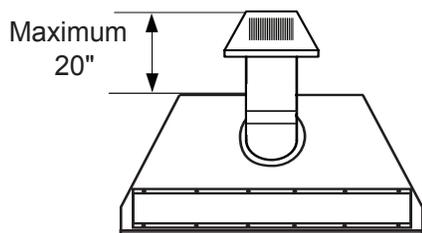
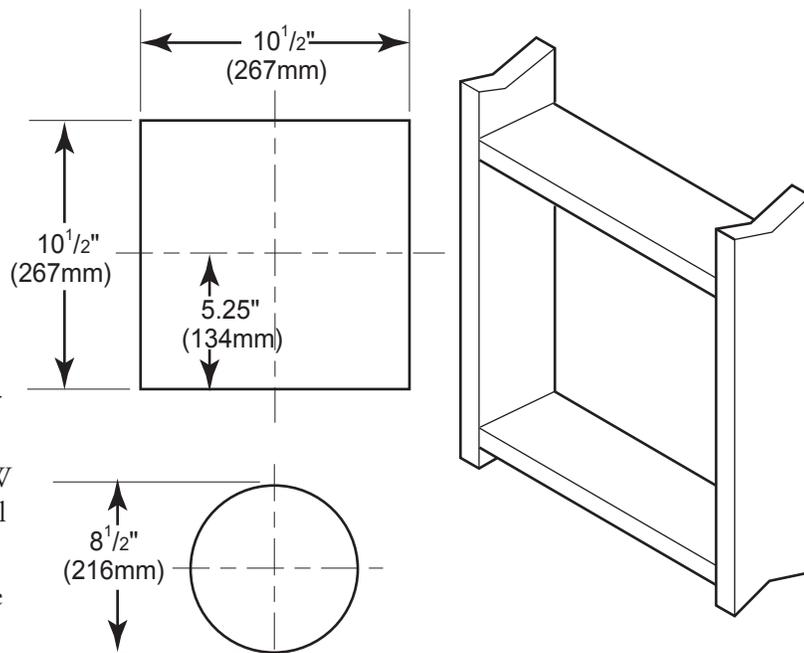

Figure 11 - Rear Vent Application, Maximum Horizontal Distance with two foot minimum rise
Figure 12 - Vent Opening Requirements
The maximum horizontal distance between the rear of the appliance and the outside of termination with 18" minimum rise is 20" (510 mm) See Figure 11.
1. Locate and cut the vent opening in the wall. For combustible walls first frame in opening. See Figure 11.
Combustible Walls: Cut a 10 1/2"H x 10 1/2" W (267mm x 267mm) hole through the exterior wall and frame as shown. See Figure 12.
3. Attach vent pipe assembly to the fireplace. Set fireplace in front of its permanent location to insure minimum clearances. Mark the wall for a 10 1/2"H x 10 1/2"W (241mm x 241mm) square hole (for noncombustible material such as masonry block or concrete, a 8 1/2" [216mm] diameter hole is acceptable). See Figure 11. The center of the hole should line up with the center line of the horizontal rigid vent pipe end. Be sure to allow for minimum rise. Cut a 10-1/2"x10-1/2" (267mm X 267mm) square hole through combustible exterior wall (8 1/2" [216mm] diameter hole if noncombustible). Frame as necessary. Allow 1/4" minimum rise per foot. See Figure 12.
1. Establish vent hole through the wall. *See Figure 12, page 17.*